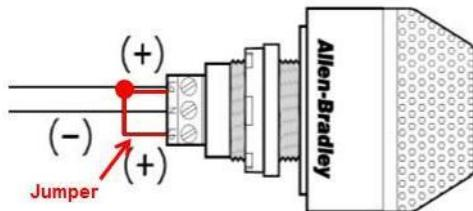

Figure 9-13 RSL jumper wiring
- C. wired for solid light operation, by placing a jumper between the "La" and "Lb" terminals on the light per Figure 9-13.